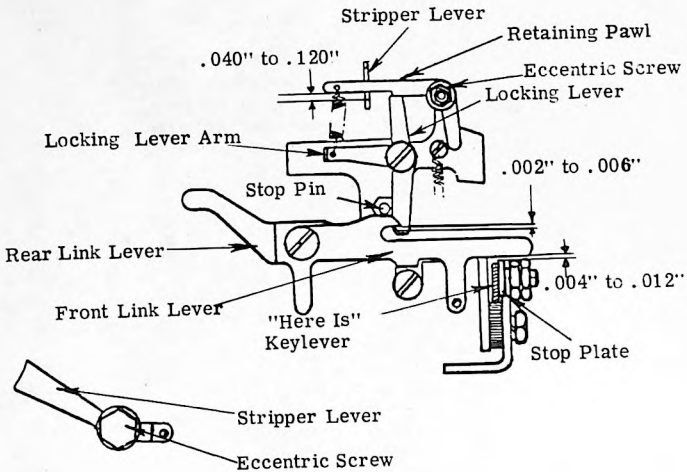

Figure 8
2.10 Answer Back Striper Lever Eccentric Screw (Figure 8)
- 2.11 Answer Back Locking Lever Stop Pin (Figure 8)
- 2.12 Answer Back Retaining Pawl Eccentric (Figure 8)